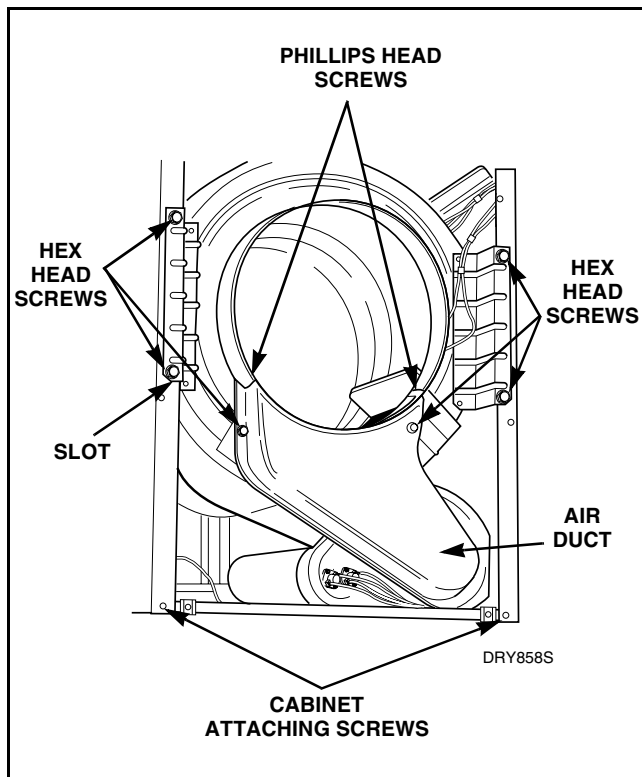

Figure 21
- Remove four screws holding duct to front bulkhead and remove air duct. Refer to *Figure 21*.
- e. Remove screws holding air duct to front bulkhead and remove air duct. Refer to *Figure 21*.